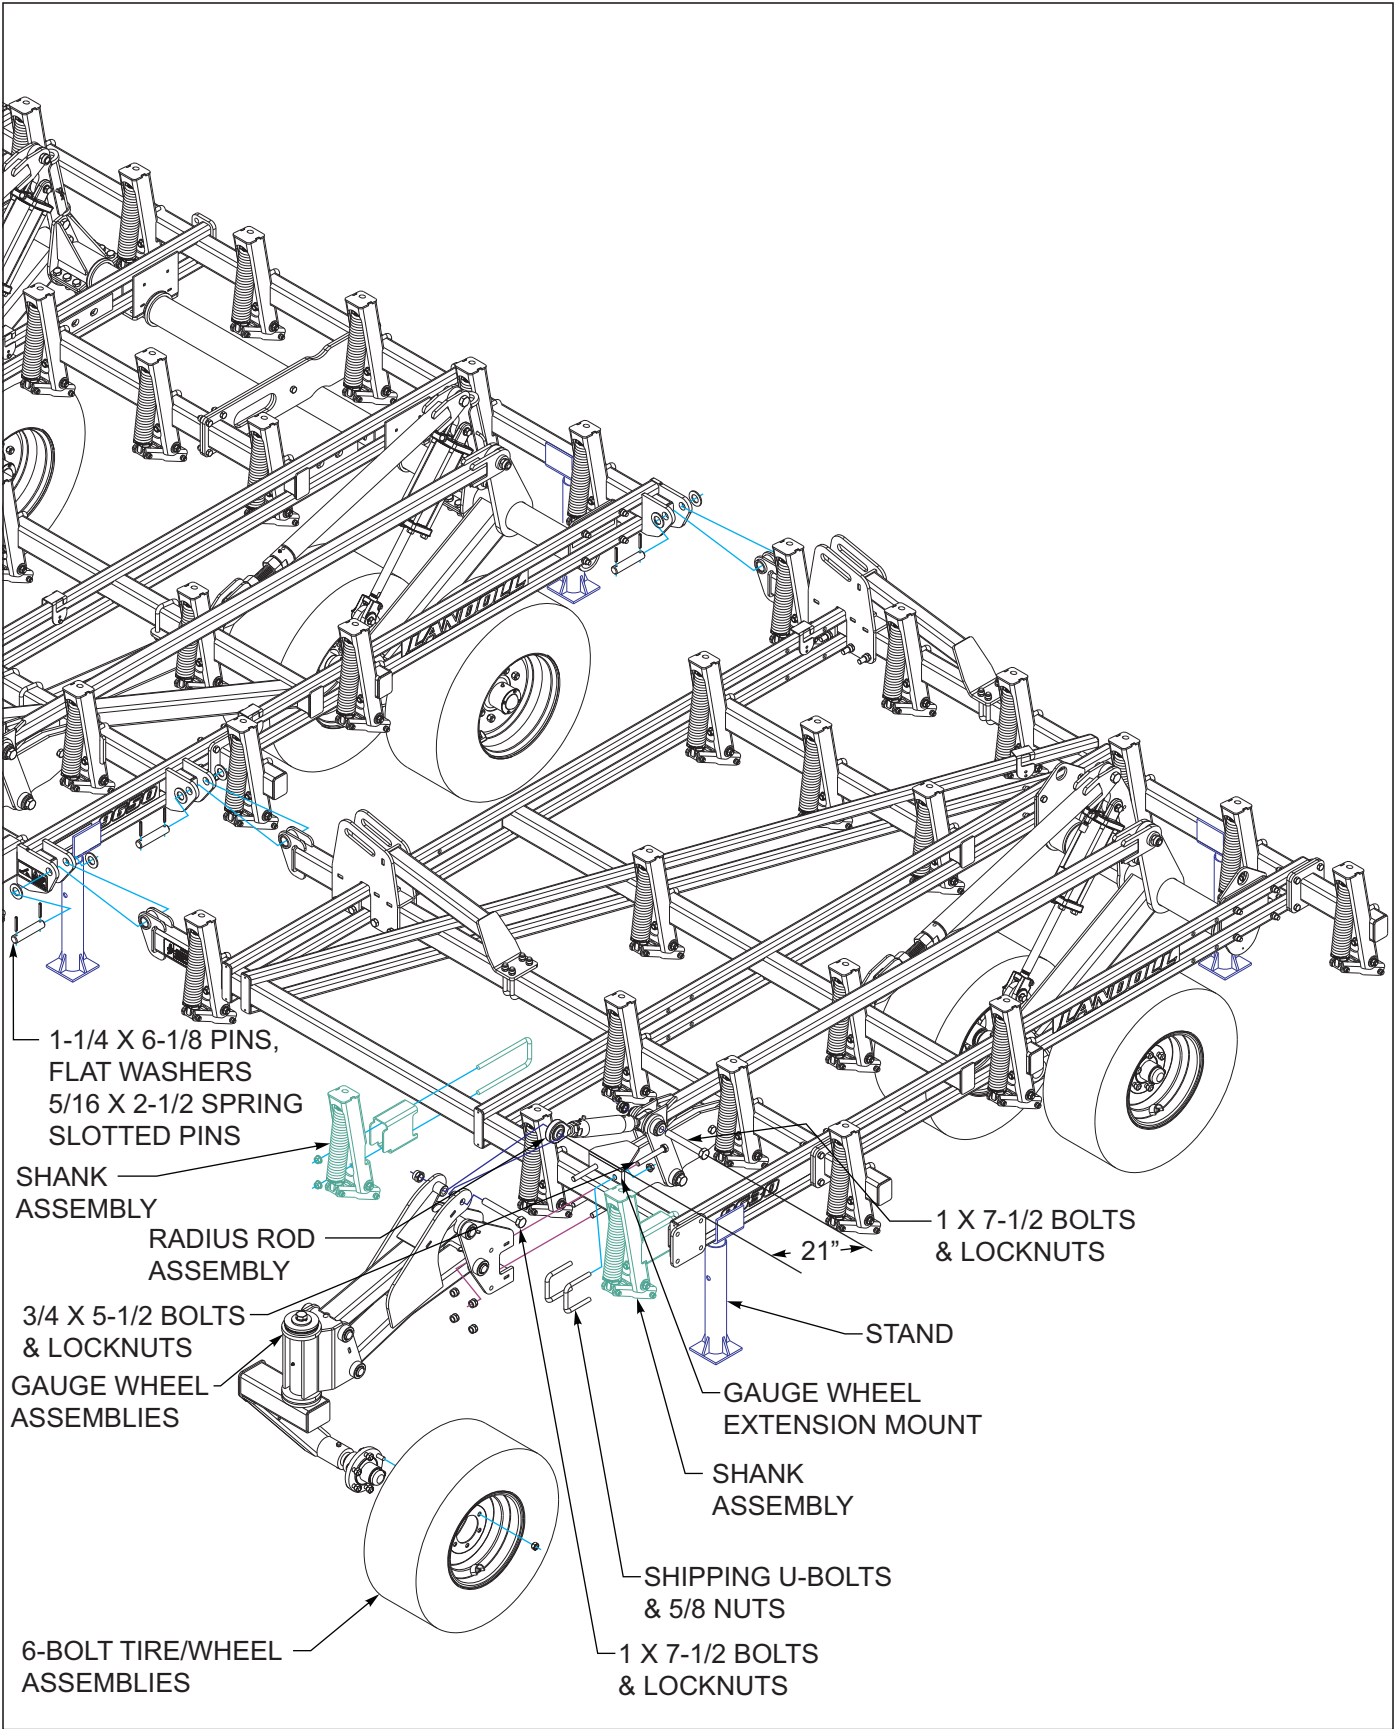

Figure 3-5: Wing Assembly
1. Attach wing frames to center frame using 1-1/4 flange bearings, flat washers, 1-1/4 x 6-1/8 pin and 5/16 x 2-1/2 spring slotted pins See Figure 3-5.
1. Remove the shipping u-bolts and nuts from front of the gauge wheel extension mounts See Figure 3-5.